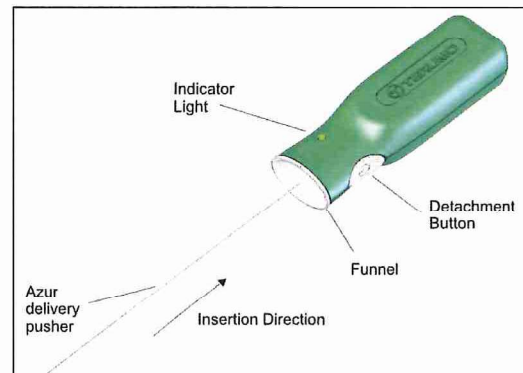

Figure 2 – Azur Detachment Controller
Detachment Controller. See Figure 2. **Do not push the detachment button at this time.**
33. Connect the proximal end of the delivery pusher to the Azur Detachment Controller by firmly inserting the proximal end of the delivery pusher into the funnel section of the Azur Detachment Controller. See Figure 2.